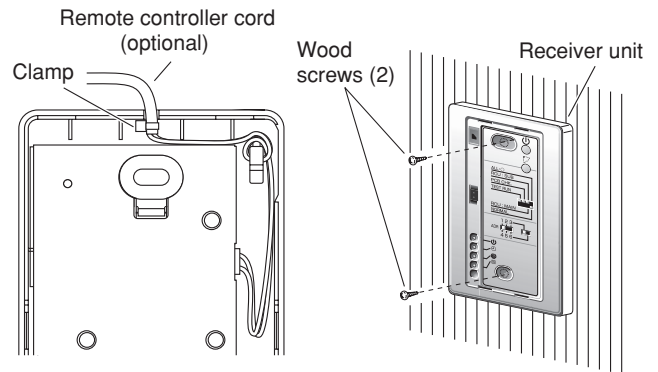

Fig. 11-25
4. Fasten the remote controller cord (optional) at the position shown in Fig. 11-25, using the provided clamp. Then connect the cord to the receiver connector.
5. Shape the remote controller cord as shown in Fig. 11-25 so that it fits at the top inside the receiver unit, above the PCB. Then attach the lower case. At this time, bend the head of the clamp so that it faces sideways.